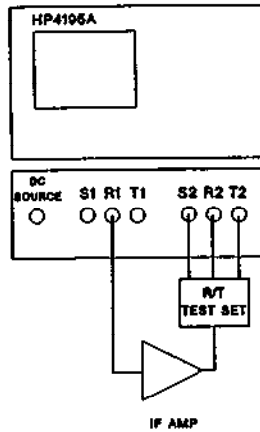

Figure 23. Setup for Measuring Reflection Characteristics
The HP 4195A is used with a transmission/reflection test set to measure return loss, SWR and other reflection characteristics. Figure 23 shows the setup of a measurement circuit for measuring reflection characteristics. Figure 24 shows an example of measuring return loss (A) and SWR (B) up to 500 MHz.